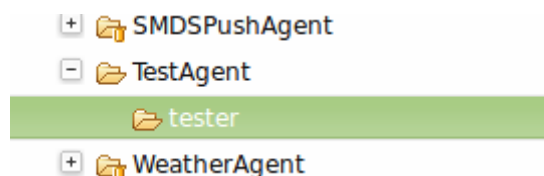

Figure 78: Creating an Agent Test Folder
2. In TestAgent, create a new folder tester; this is the package where the Python code will be created (Figure 78)